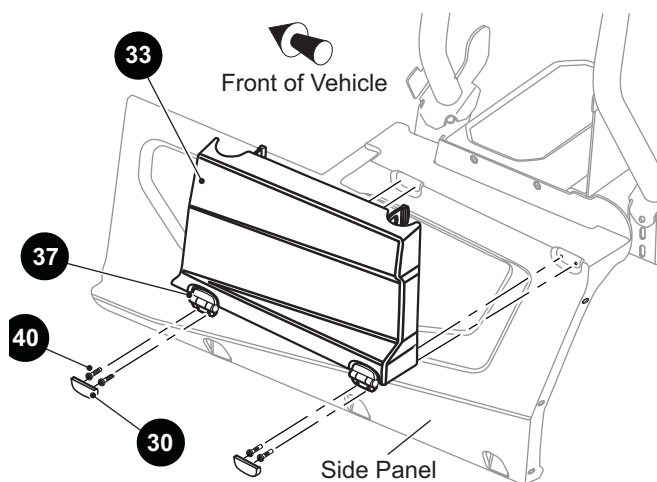

Fig. 15 Extended Cab Doors
1. Remove hinge covers (30) from the hinges (37) (See Fig. 15).
2. Remove the screws (40) that secure the hinges (37) to the door panels (33). Remove the door panel (33) from the vehicle.